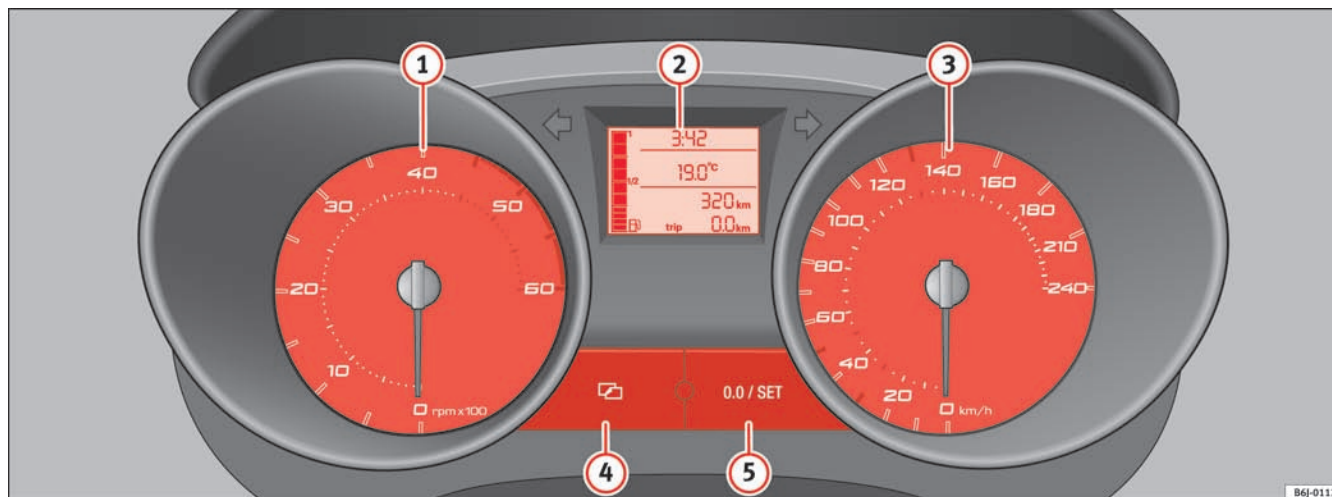

Fig. 30 Detailed view of dash panel instrument panel
The start of the red zone on the dial ⇒ page 51, fig. 30 ① indicates the maximum engine speed which may be used briefly when the engine is warm and after it has been run in properly. However, it is advisable to change up a into a higher gear, move the selector lever to D or lift your foot off the accelerator before the needle reaches the red zone.
- To alter the time, press button ④ ⇒ page 51, fig. 30. The option “hour” flashes on the digital display. Set the hour from button ⑤ “set” ⇒ page 51, fig. 30. ▶
- To set the minutes, press button (4) again and select the minute option. Set from button (5) “set”.
⇒ page 51, fig. 30 (6).